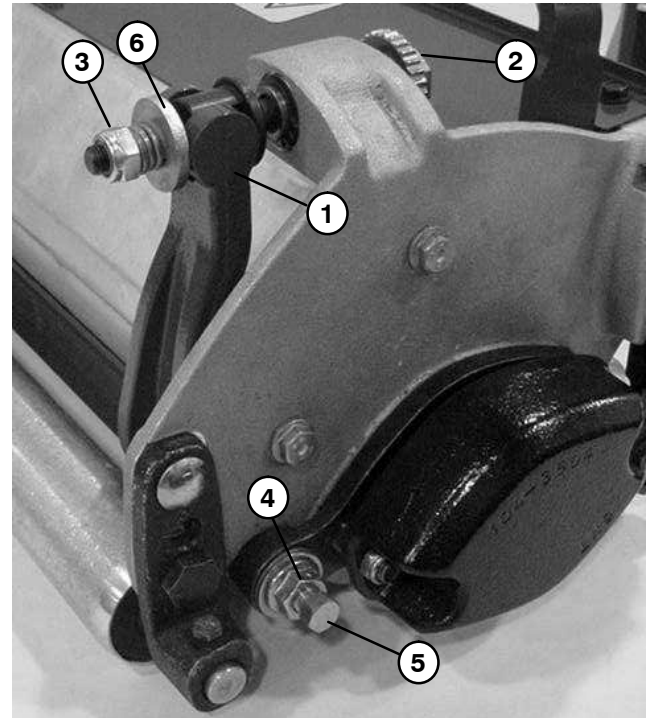

Figure 22
2. On both sides of cutting unit, loosen bedbar adjusting screw by turning screw counterclockwise (Fig. 22).
3. Back off the spring tension locknut until the washer is no longer tensioned against the bedbar (Fig. 22).
4. Loosen jam nuts securing the bedbar bolts on both sides of the mower. Remove both bedbar bolts (Fig. 22).
2. Install bedbar from bottom of mower frame making sure that bedbar mounting ears are positioned between washer and bedbar adjusting screw (Fig. 22).
7. Tighten spring tension locknut to fully compress spring and then back off locknut 1/2 turn (Fig. 22).